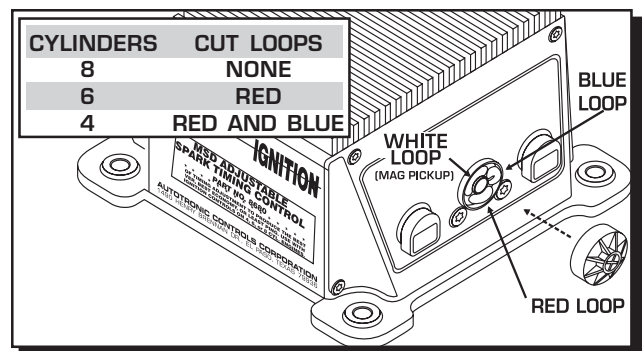

Figure 2 Selecting the Number of Cylinders.
The Timing Control is programmed for 8-cylinder operation using the Points (White wire) input. If installing the PN 8680 on a 4 or 6-cylinder or are using a magnetic pickup to trigger the ignition, the Control must be programmed as follows. Locate the Cylinder Select cover on the side of the unit and remove the single Phillips screw (Figure 2).
**Number of Cylinders:** The Red loop and the Blue loop are responsible for cylinder programming. The chart in Figure 2 shows which loop(s) to cut.
**Trigger Selection:** If using a magnetic pickup trigger, the White loop must be cut (Figure 2).